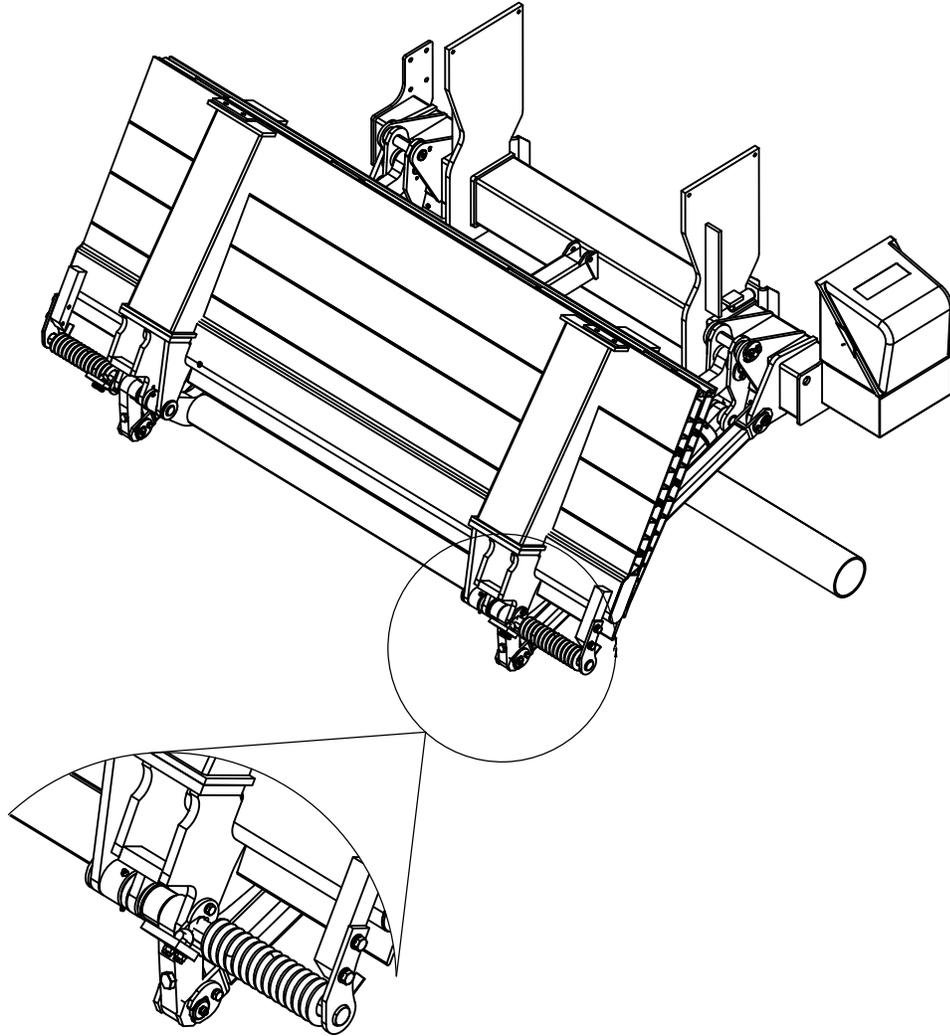

Figure 34: Platform Adjustment.
1. **Position** the liftgate so that the lift arms are touching the ground, but the platform is still folded (Figure 34).